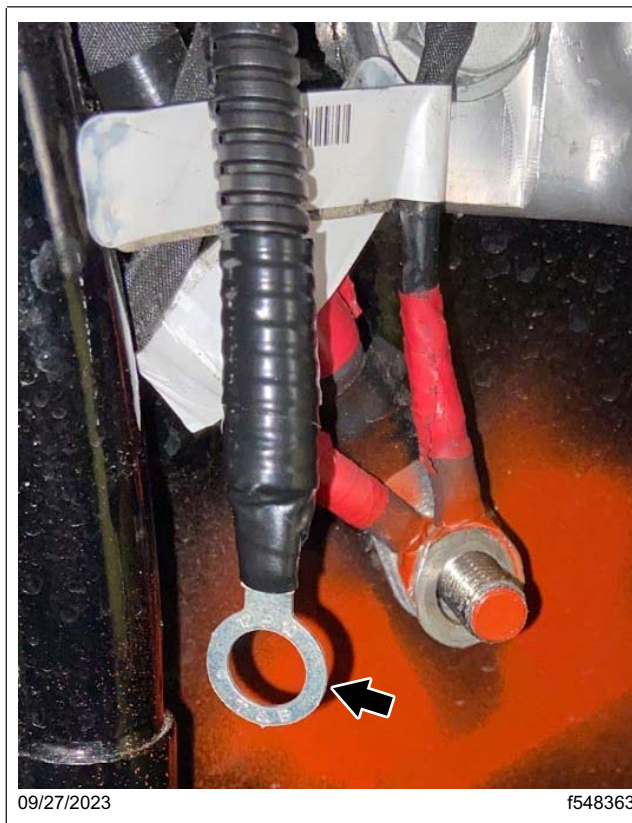

Fig. 95, Ground Stud with the Nut Removed
20.2 Install the ring terminal from the harness (TSU CT44FRT035) on the ground stud, and install the nut. See Fig. 95.